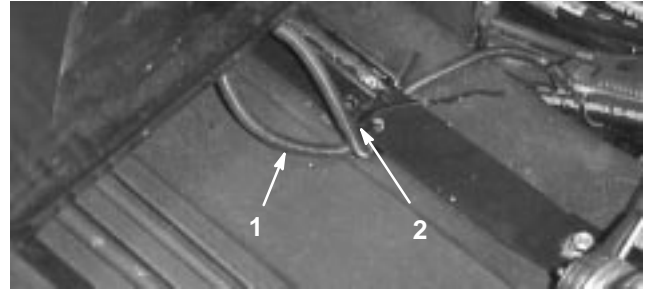

Figure 5
6. On the deluxe seat only, route the unused seat switch connector back under the seat strap and secure both wires to the rear-most hole in the seat strap (Fig. 5) with a cable tie (cable tie supplied with seat kit).